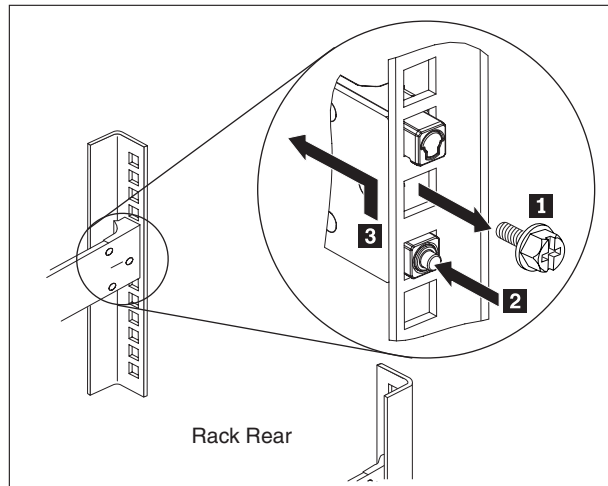

Figure 22. Lifting the rear of appliance off the rail
3. Remove the rear end of the slide rails, as shown in Figure 22 on page 53. Push in the pins **1** and **2** push back on the rail **3** to disengage the slide rails from the rear of the rack.